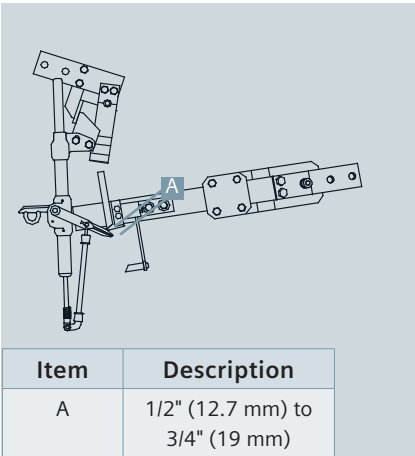

Figure 14: Contactor space
3. As the blade continues to rotate open, the interrupter will trip thus interrupting the load. The interrupter must trip while the lever arm is in metal-to-metal contact with the contactor. The interrupter should trip (fire) before the contactor is within 1/2" (12.7 mm) to 3/4" (19 mm) of the end of the lever (refer to Figure 14: Contactor space).